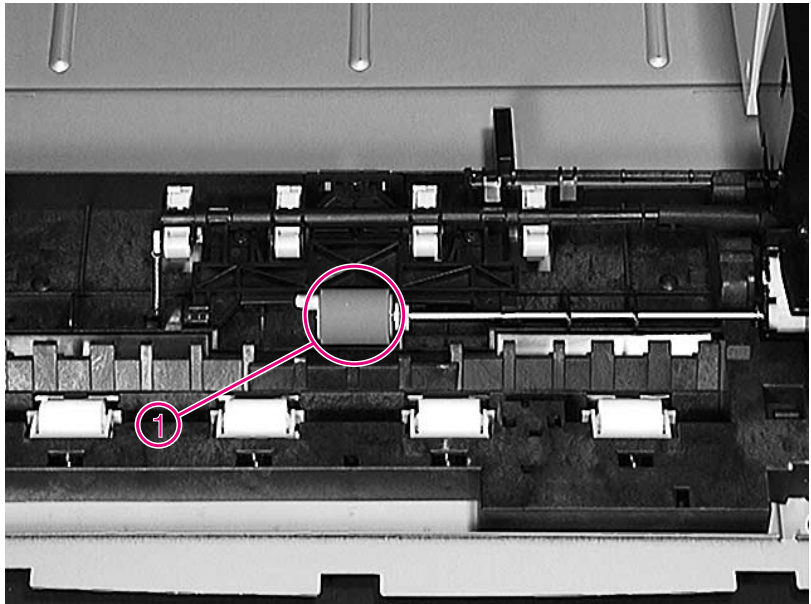

Figure 12 Removing the optional 500-sheet tray feed roller
Pinch the feed roller tab (Figure 12, item 1), and then slide the roller off of the shaft.